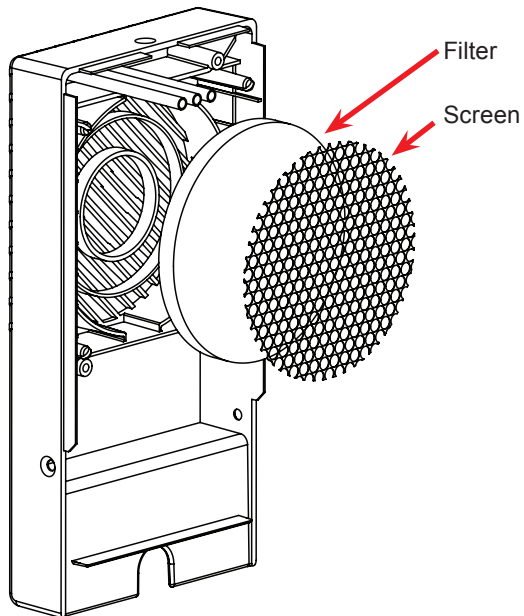

Figure 10 — 4kW rectifier fan filter removal
6. Inspect the fan filter and replace if necessary.- see Figure 10